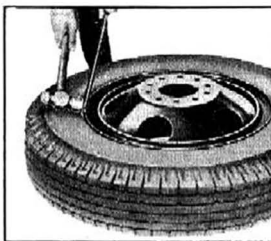
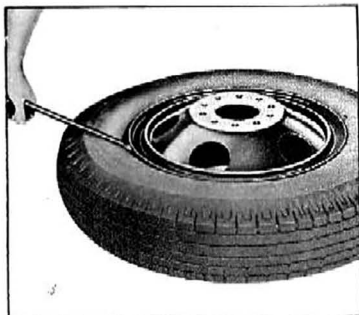

Fig. 71—Starting Side Ring Removal
Fig. 72—Removing Side Ring
4. Drive the curved end of the tire iron in between the side ring and the entire bead (fig. 71). Then pry down on the opposite end of tire iron to move the tire bead away from the side ring flange (fig. 72). Continue the foregoing operation progressively around the tire until the side ring is removed. In some cases it may be necessary to work around the tire a couple of times.